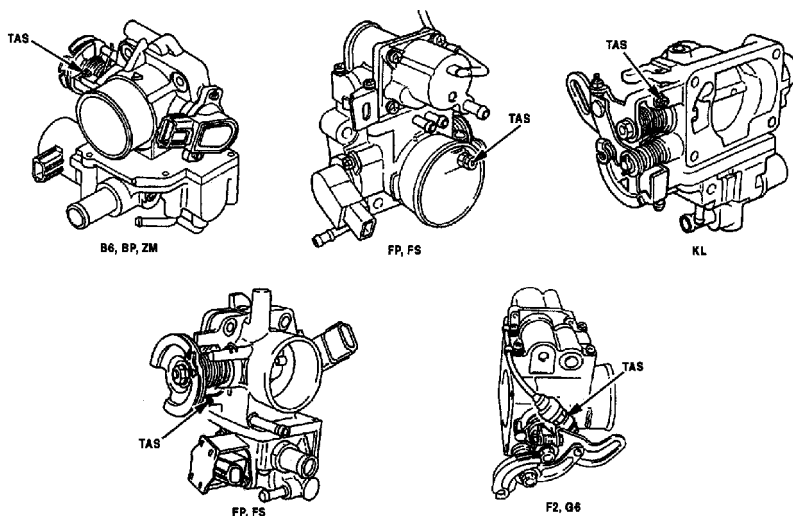

Fig. 1: Throttle Adjustment Screw Locations
* The TAS locations on the examples below may vary depending on model year of vehicle. See Fig. 1.